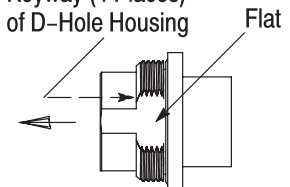

Figure 13
7. Using an applicator swab, apply a *thin film* of the grease around the O-ring on the outside of the EB insert, the front seal on the inside of the housing, and the internal O-ring of the D-hole housing. Remove any excess grease. Refer to Figure 13, Detail A.
8. Align the large diameter end of the D-hole housing with the back (end opposite the front seal) of the housing so that the desired rotational orientation is established (use the flat on the D-hole housing as the reference point). Refer to Figure 13, Detail B. Then slide the D-hole housing onto the housing until a distinct bottoming of the D-hole housing is felt.
There are 4 rotational orientations for mounting the connector to the panel: top, bottom, left, or right. Aligning one of the keyways located inside the D-hole housing with one of the external keys of the housing will establish the rotational orientation (one keyway is parallel to the flat). Refer to Figure 13, Detail B.